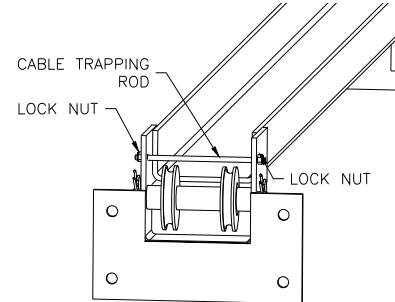

Fig 3-Cable Trapping
- 14) At the upper beam sheave locations disassemble and reassemble the cable trapping rod to install the cable onto the sheave, See **Fig 3**. To install the cable bottom sheave will need to be removed then reassembled.